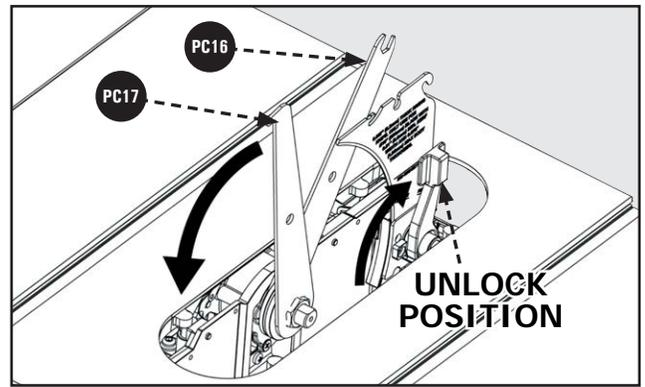

Figure 14
2. Ensure Riving Knife Lock Lever is in unlock position. See Figure 14.
5. Place the Closed End Wrench **PC17** over the Arbor Nut. Holding the Spindle Shaft in place, loosen and remove the Arbor Nut and Arbor Flange. See Figure 14.